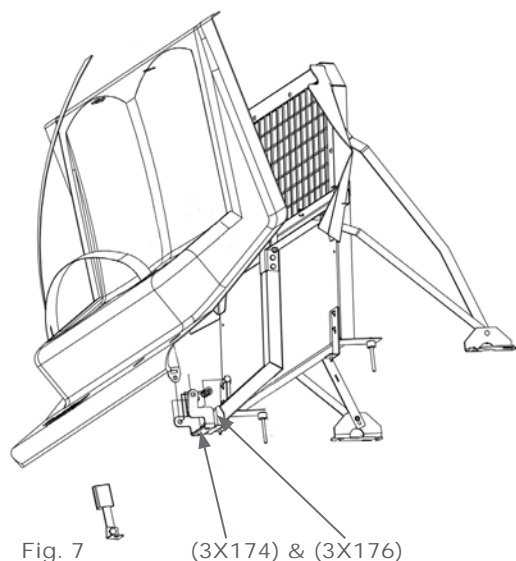

Fig. 7
A. First, flip the (3S47UINT13) transport seat upside down and use the provided template on the back pages to cutout the passenger-side seat belt area for installation. Then install the (3OSB109RP) lower seat belt buckle on the passenger side. Use the (3OSB4715-06) buckle L-bracket and (3X174 & 3X176) bolt & nut to fasten these to the original OEM belt buckle location at the lower part of the C-pillar. (See Fig. 7 or 8) Tuck the OEM belts behind the trim to hide.